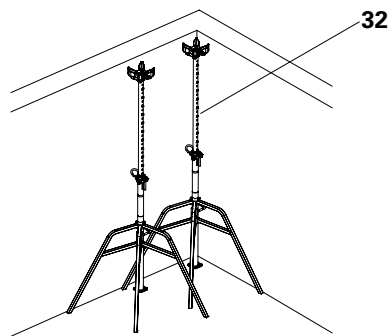

Fig. D2.01
1. Erect two props with DFH propheads (**32**) and secure with tripods. (Fig. D2.01)